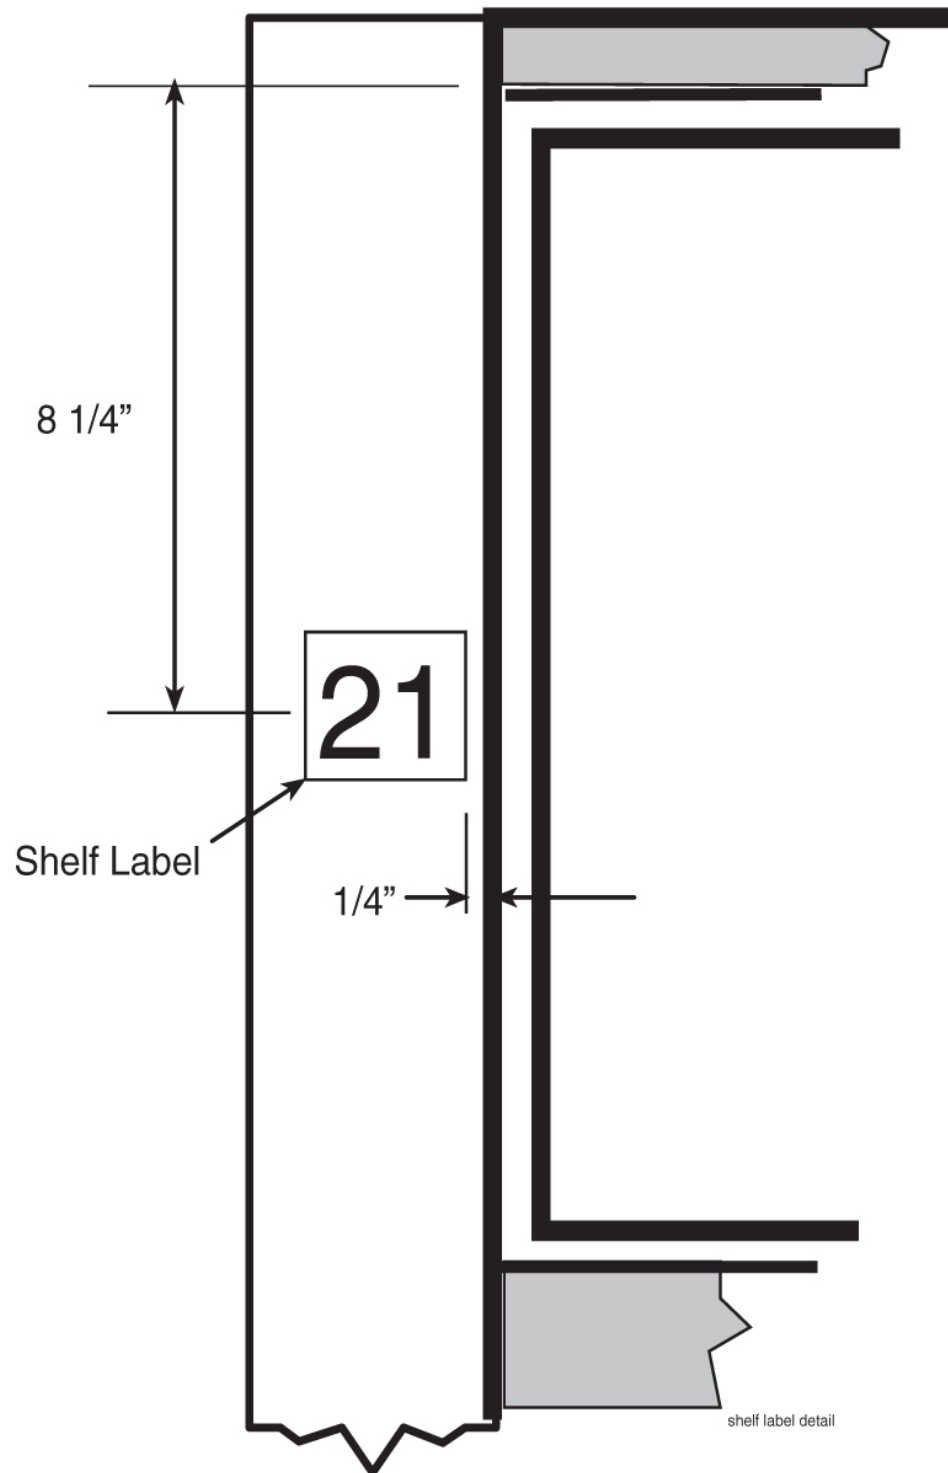

Figure 34: Shelf Label Location - Detail
Apply shelf labels to the frames of the system as shown in *Frame Labeling*. Refer to *Figure 34: Shelf Label Location - Detail* for exact placement. Refer to *Table 8: Shelf Labels and Part Numbers* for the proper label for each shelf.
2. Firmly press the label into place as shown in Frame Labeling and Figure 34: Shelf Label Location - Detail.